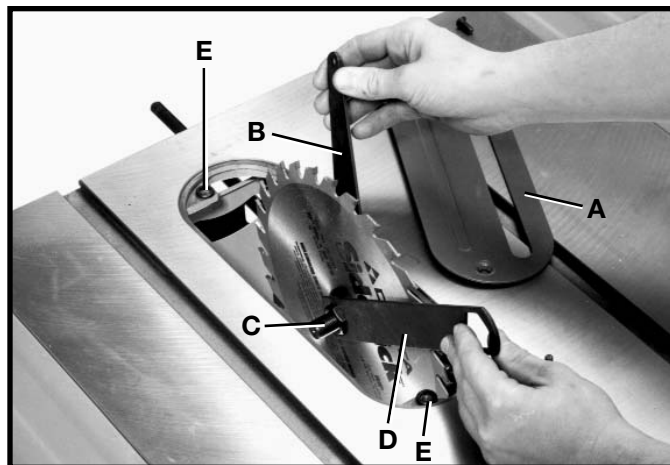

Fig. 62
2. Raise saw blade to its maximum height and remove the table insert (A) Fig. 62. **NOTE:** Be careful not to lose two rubber washers (E).
3. Using the open end wrench (B) Fig. 62, place wrench on flats on saw arbor and remove arbor nut (C) using wrench (D) by turning nut clockwise. Remove blade flange and saw blade.
4. Assemble new blade making certain teeth of blade are pointing down at the front, assemble outside blade flange and nut (C). Tighten nut (C) with wrench (D) by turning nut counterclockwise while holding arbor steady with wrench (B).
5. Replace table insert (A) Fig. 62.